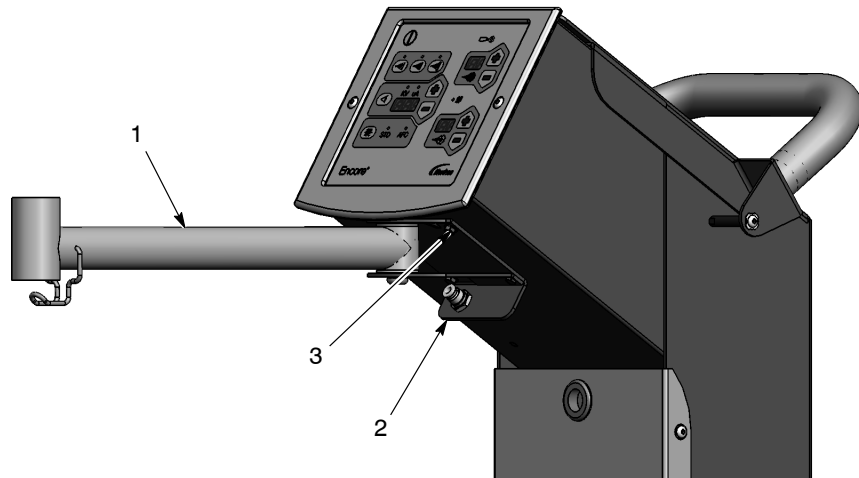

Figure 3-5 Pickup Arm Installation
2. See Figure 3-5. Install the pickup arm as shown, using four M5 x 10 screws with integral washers (3).